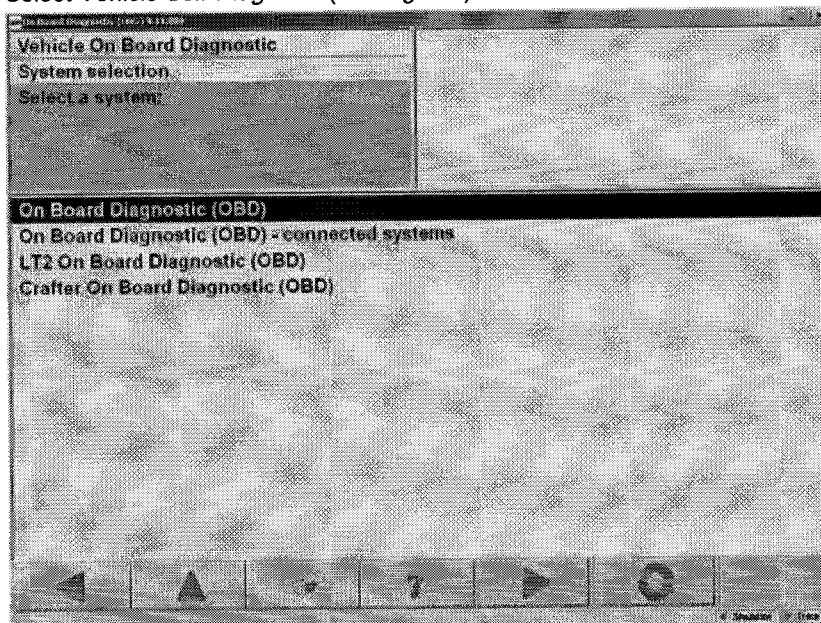

Figure 7
5. Select *On Board Diagnostic (OBD)* (see Figure 7)